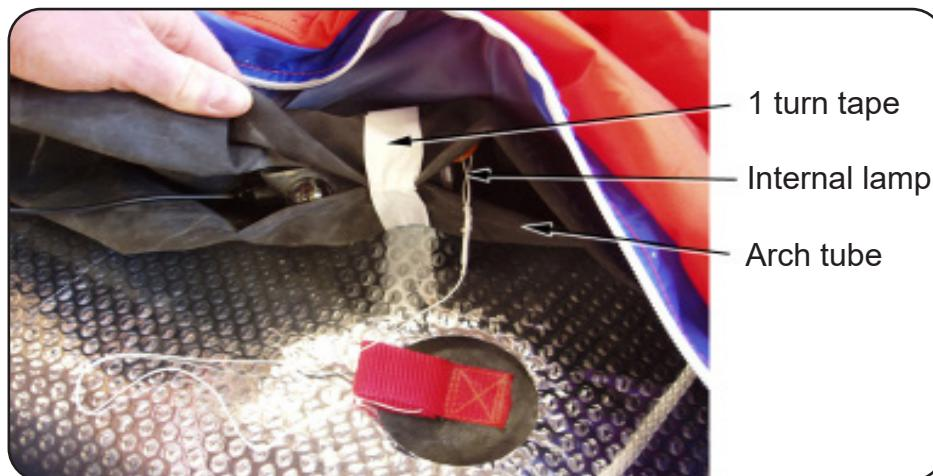

FIGURE 852
6.26.1 Fold the arch tube around the internal lamp and secure with 1 turn of 25 mm (1") tape, (FIGURE 852). This will prevent the tension line from interfering with the lighting switch. Make sure that the knife was installed and that the flaps of the pocket are correctly closed.